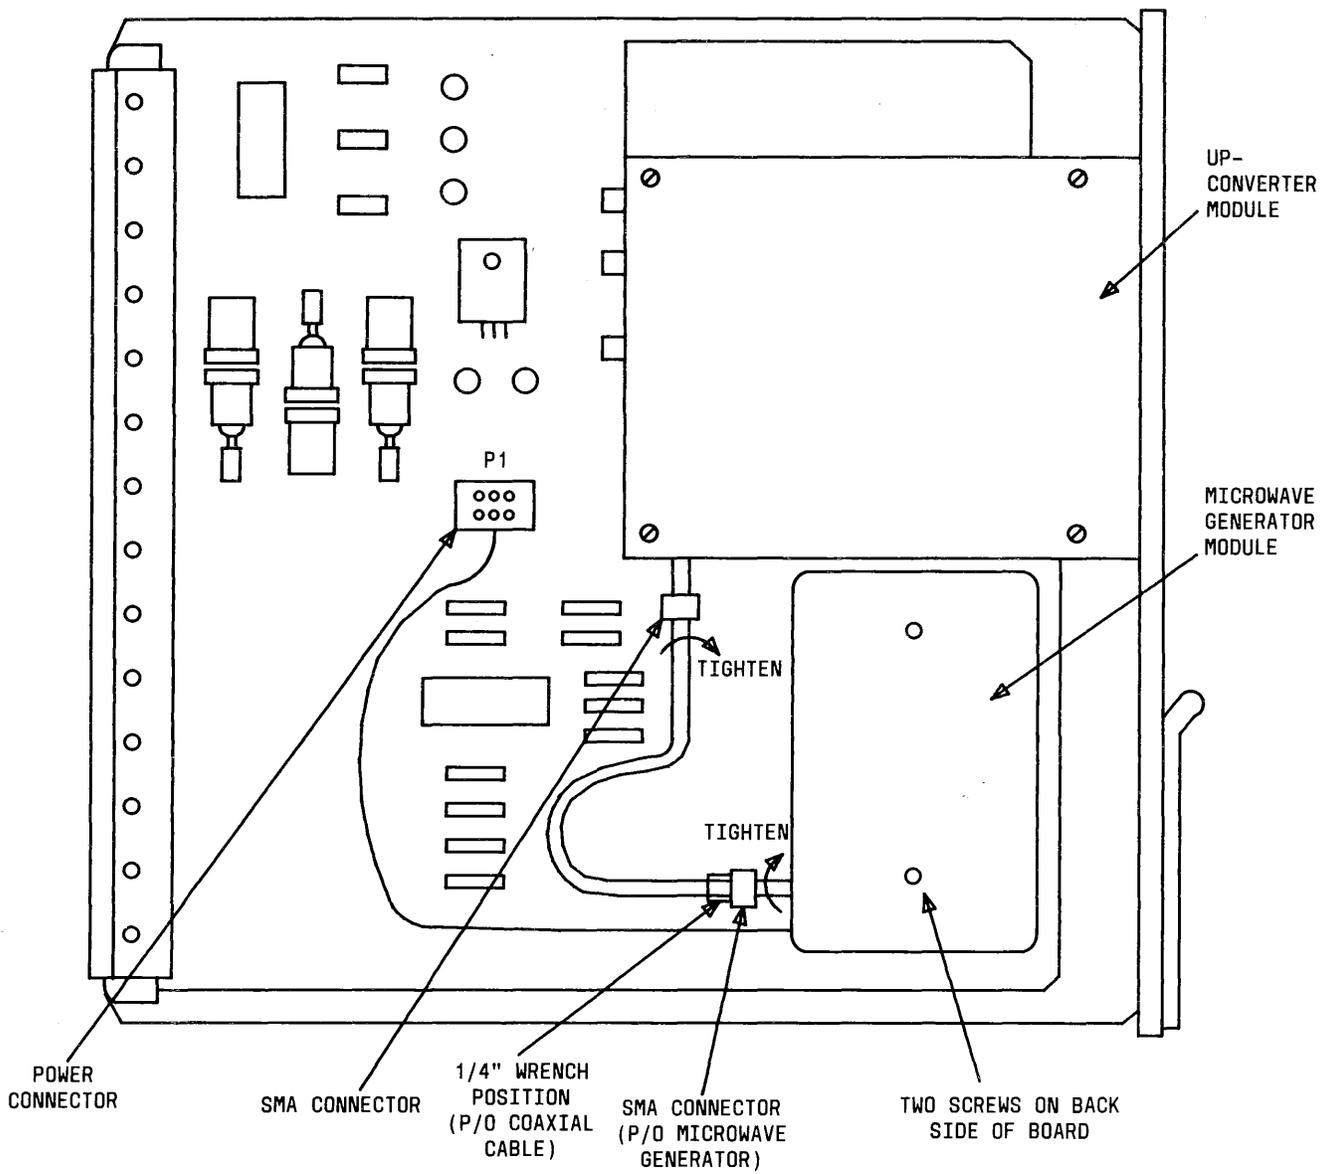
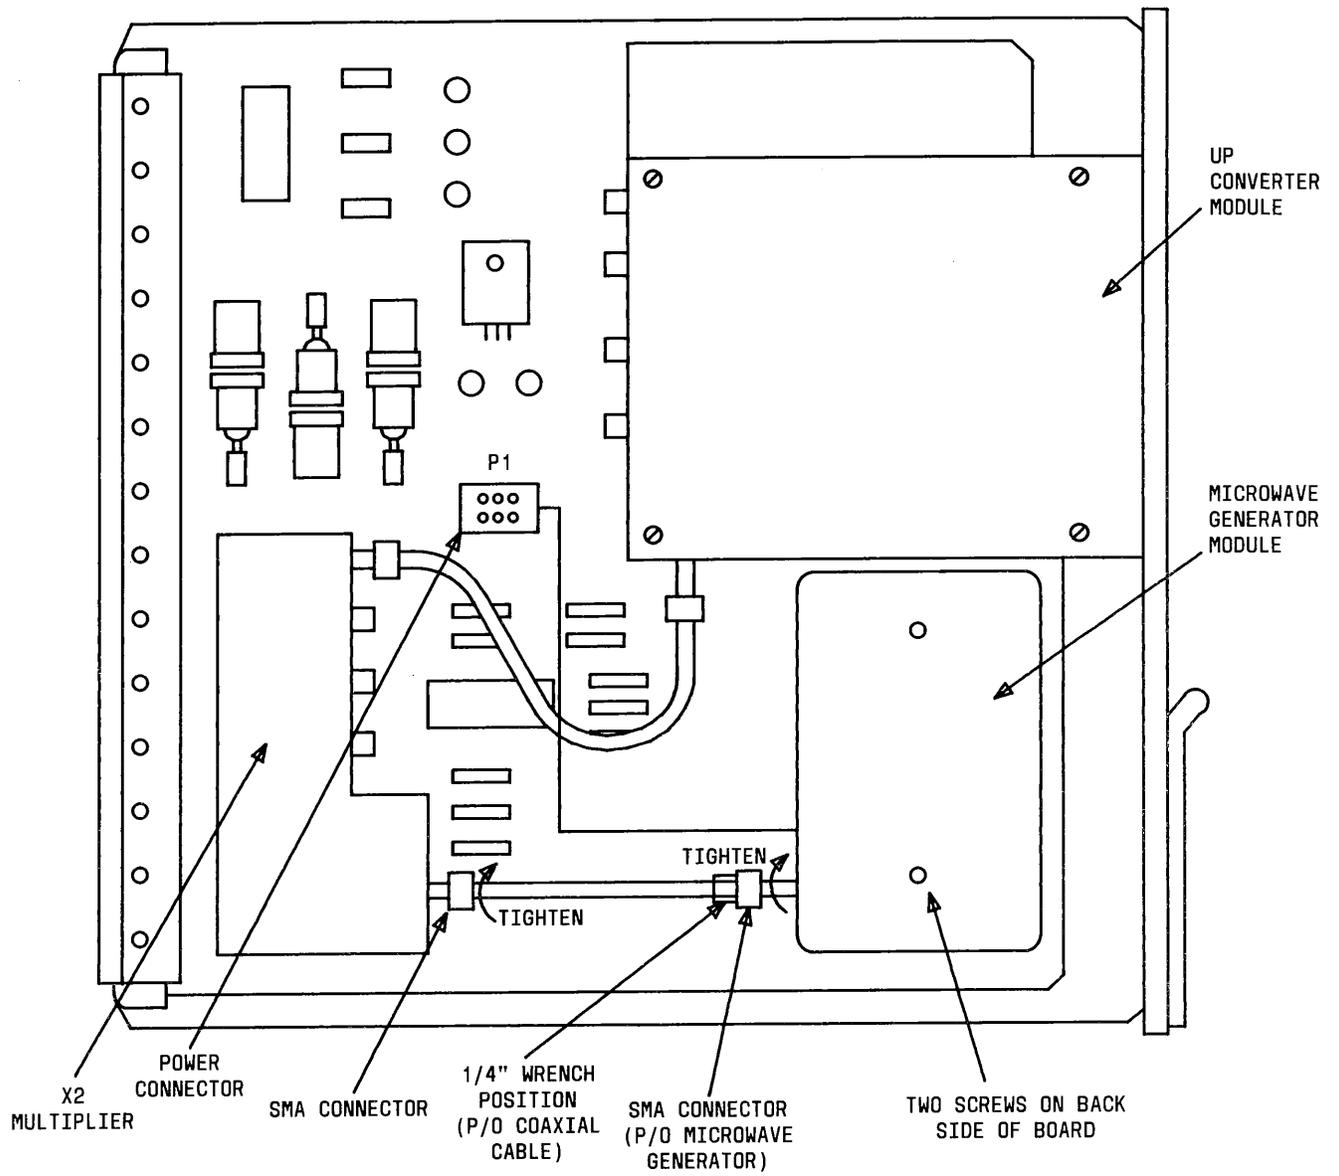

Fig. 1 — Replacement of Transmitter Microwave Generator Module (6 GHz)
Fig. 2—Replacement of Transmitter Microwave Generator Module (11 GHz)
10. Remove the power connector for the microwave generator module from plug P1 on the printed circuit board (Fig. 1 for 6 GHz or Fig. 2 for 11 GHz).
14. Plug the power connector into P1 on the printed circuit board (Fig. 1 or 2).
16. Install the two mounting screws previously removed (Fig. 1 or 2).